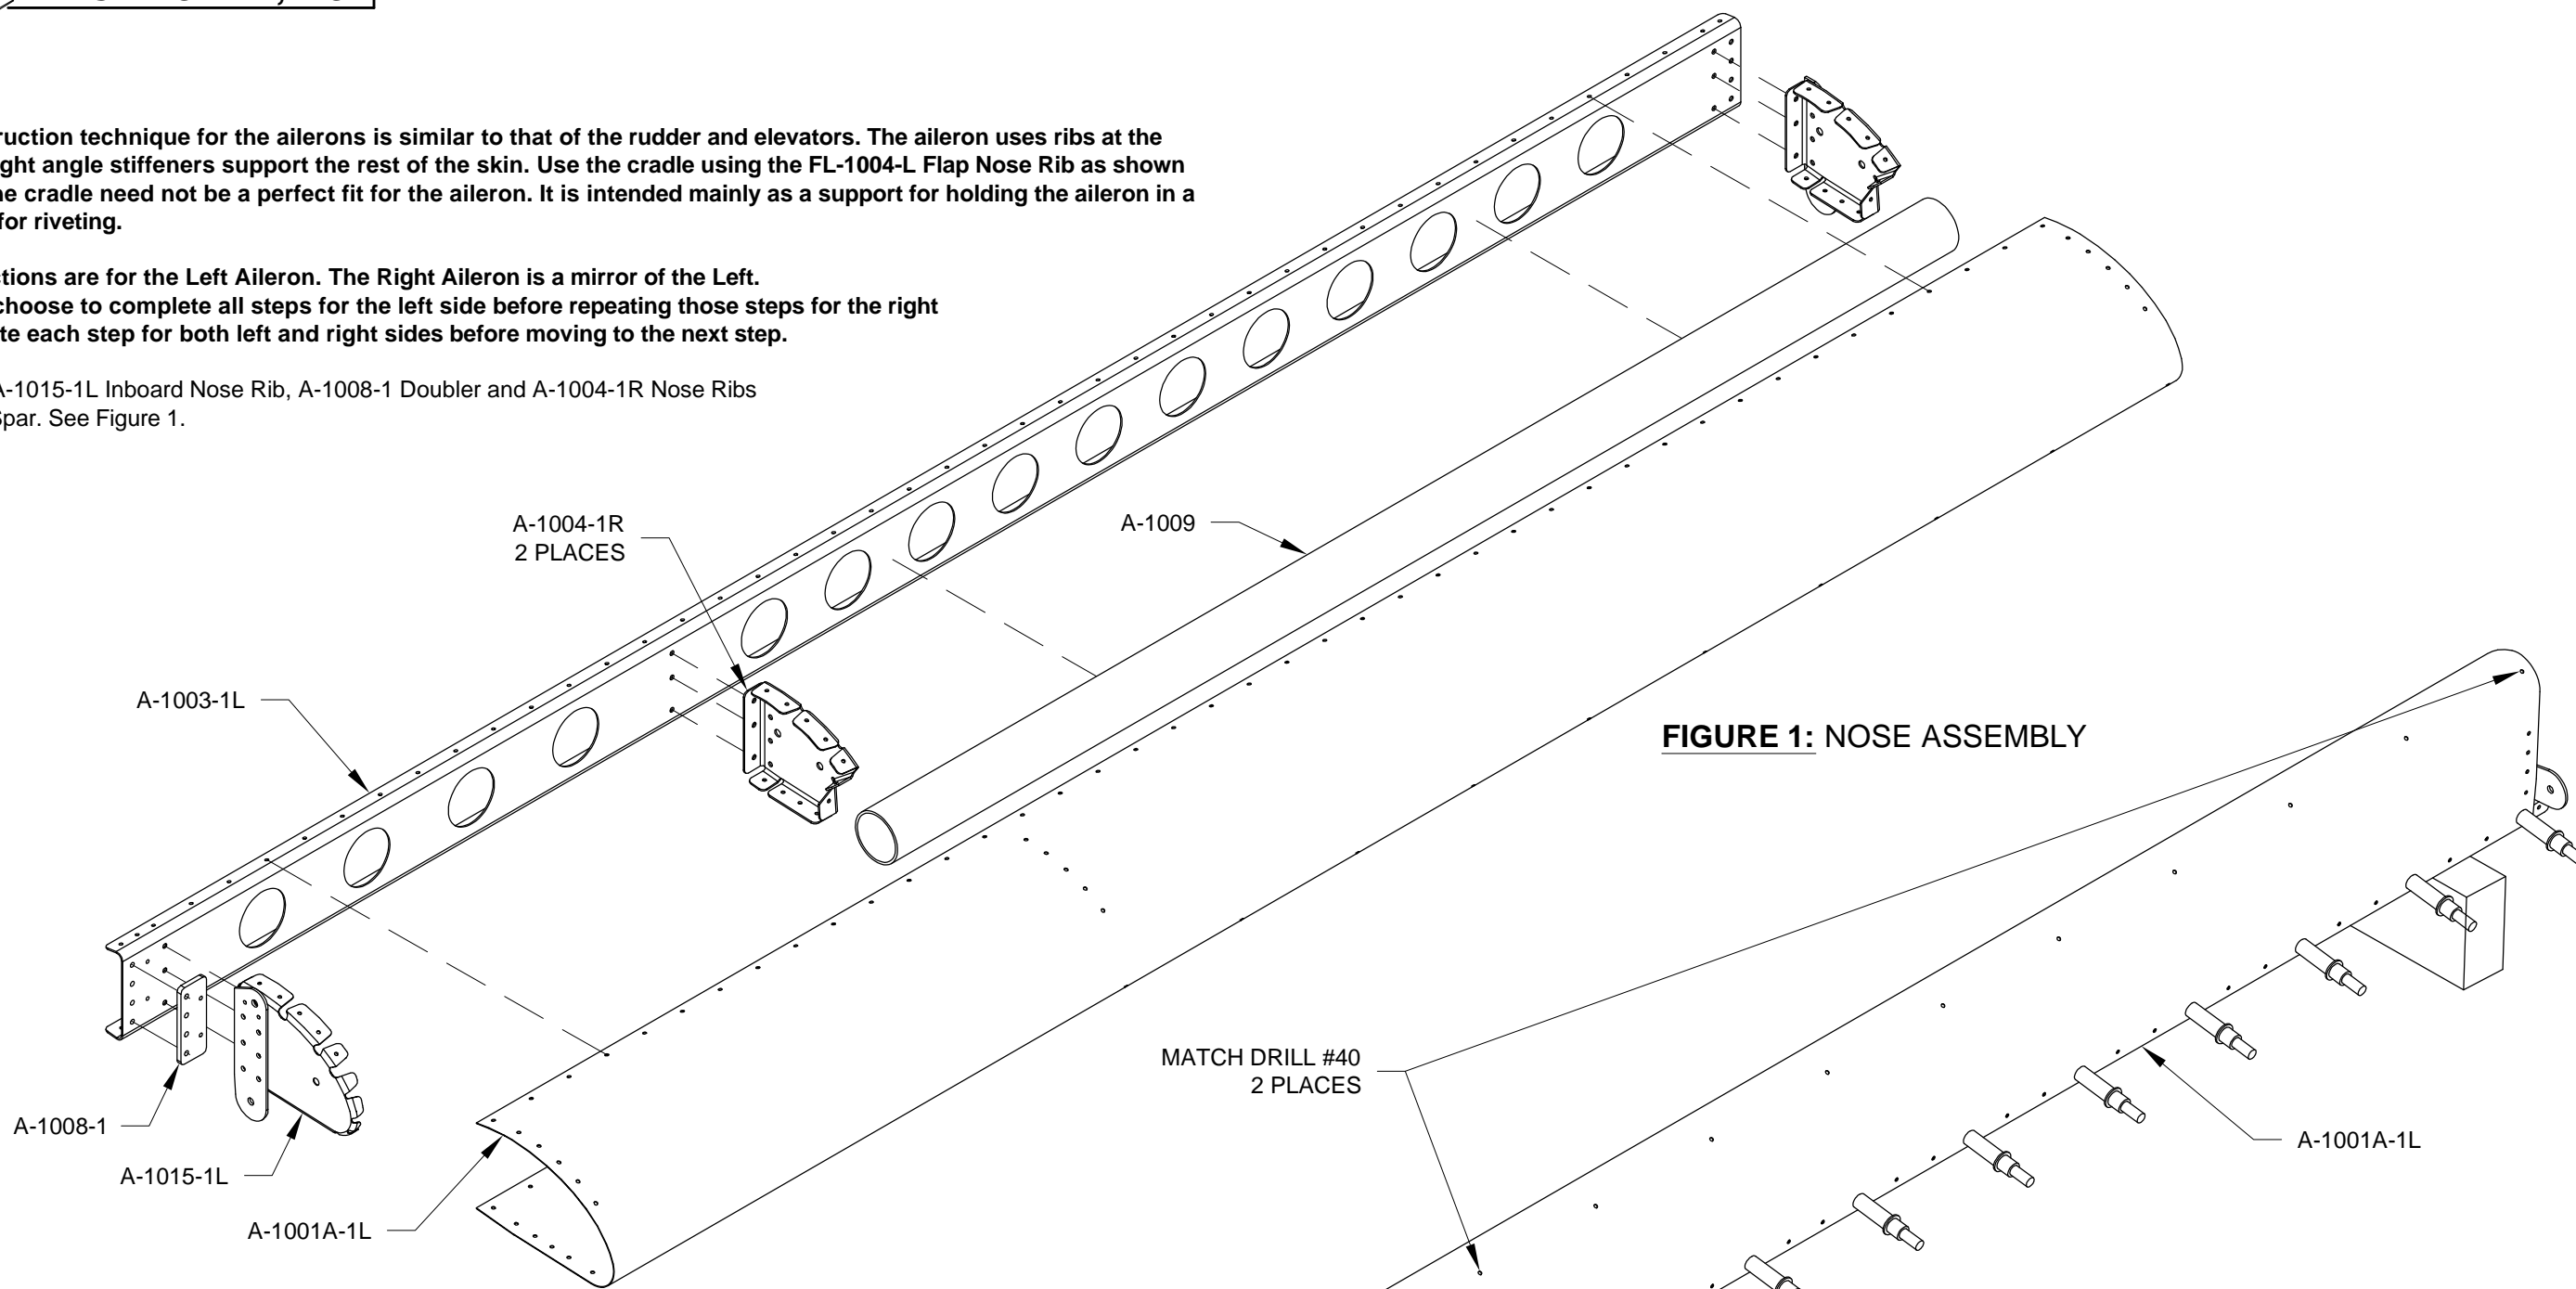

FIGURE 1: NOSE ASSEMBLY
Step 1: Cleco the A-1015-1L Inboard Nose Rib, A-1008-1 Doubler and A-1004-1R Nose Ribs to the A-1003-1L Spar. See Figure 1.
Step 3: Cleco the A-1001A-1L Nose Skin to the lower flange of the A-1003-1L Spar at every third hole. Lay the A-1009 Counterbalance into the nose skin so that it is flush with the outboard edge of the nose skin. Cleco the nose skin to the top flange of the spar at every third hole applying downward pressure on the nose skin if/as required to insert the clecos. Cleco the nose skin to the A-1004-1R Nose Ribs and to the A-1015-1L Inboard Nose Rib as shown in Figure 1. Place the assembly leading edge up onto a narrow table or blocks as shown in Figure 2.